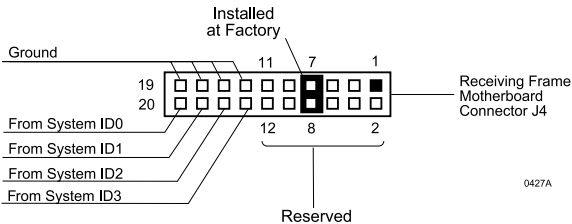

Figure 8: Receiving Frame Connector J4 Pin Configuration
3. To select the DE100 unit ID remotely through the computer system or external expansion chassis, the appropriate cable from the system must be connected to the ID select connector (J4) on the rear of the receiving frame as shown in Table 1 and Figure 8.